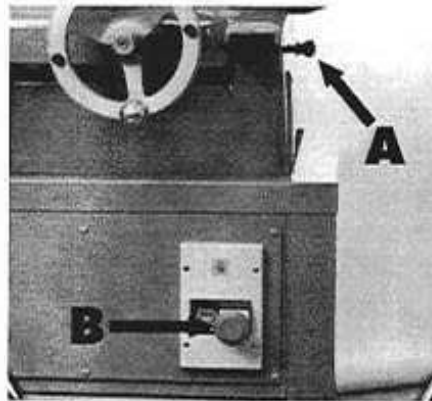

Figure 9
A. Hand feed wheel turns hard. Be sure the cross feed lock thumb-screw has been loosened. (Right side of the base just under the saddle, A Fig. 9.)
2.4 Lift slightly from skid. Loosen locking thumb screw. (A, Fig. 9, page 4) Balance machine
To turn the spindle motor on, depress "start" button located on front of cabinet. (B, Fig. 9) This also starts the lubricating system oil pump. After 1 minute, the oil level should rise to the midpoint of the sight glass on the column cap of the machine. This shows that the machine is ready for operation.
Achieve manual cross feed by loosening the cross feed travel locking thumb screw (A, Fig. 9) on the right side of the base under the table one turn, and operating the cross feed handwheel.